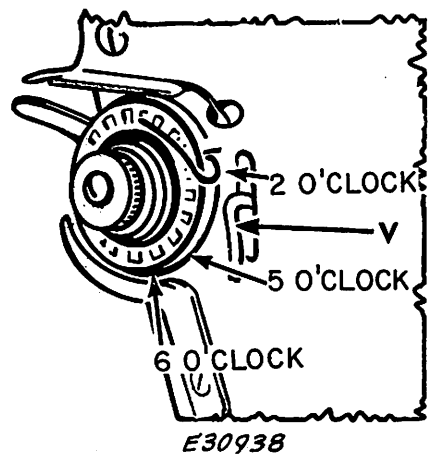
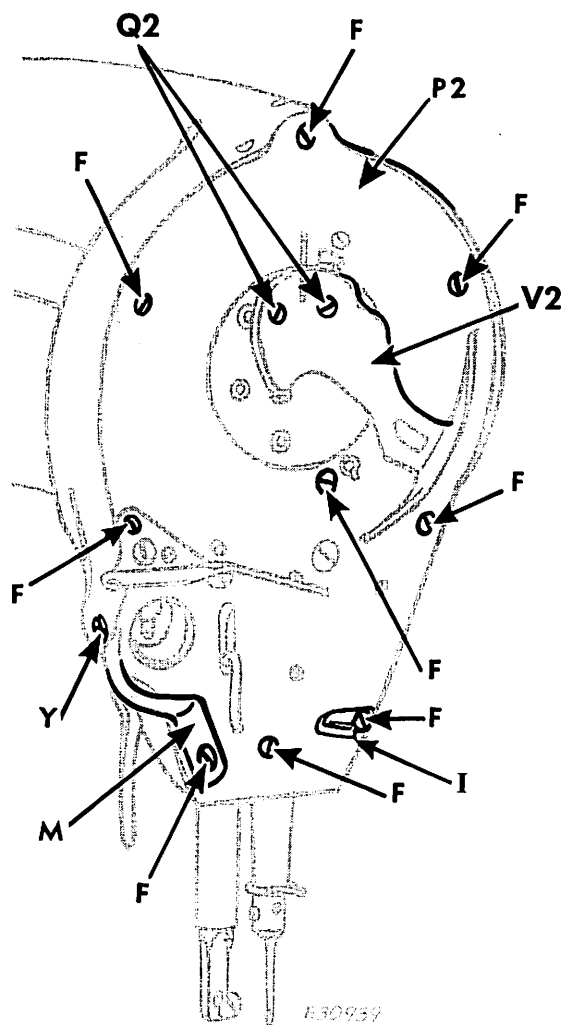

Fig. 44. Setting the Check-Spring
Fig. 45. Removing Face Plate
Make certain that feed dog is below top surface of throat plate and that presser foot is resting on throat plate. Place complete assembly in machine so that check-spring loop (at rest) is in "2 o'clock" position, about 1/4 inch above thread pull-off V as shown in Fig. 44.
Tension of check-spring should be set so that when machine is sewing 16 stitches per inch at 5000 R.P.M., spring will overthrow beyond the "5 o'clock" position but not beyond the "6 o'clock" position. (See Fig. 44.)
To adjust tension, loosen screw Y, Fig. 45 and remove entire assembly. Loosen set screw N, Fig. 43, page 15 and, while holding regulator X, Fig. 43, turn stud over slightly toward left to increase tension or toward right to decrease tension. Tighten screw N, Fig. 43, and replace assembly in machine with spring at "2 o'clock" as shown in Fig. 44.
2. Remove two screws Q2 and rotary take-up V2, Fig. 45.
3. Loosen screw Y, Fig. 45 and remove needle thread tension assembly.
4. Remove nine screws F, Fig. 45 and remove thread guide I, tension threading guide M and face plate P2, Fig. 45.
1. Install face plate P2, guide M and guide I as shown in Fig. 45, fastening them to machine casting with nine screws F, Fig. 45.
2. Replace take-up V2 and two screws Q2, Fig. 45.
3. Replace needle thread tension assembly and securely tighten set screw Y, Fig. 45.